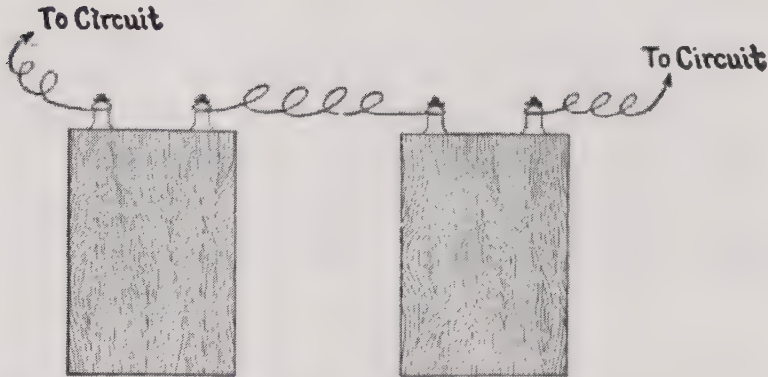

Fig. 16. Two Condensers in Series.
**Answer.** If as shown in Fig. 16 you bring a line wire to one binding post of the first condenser, and the other